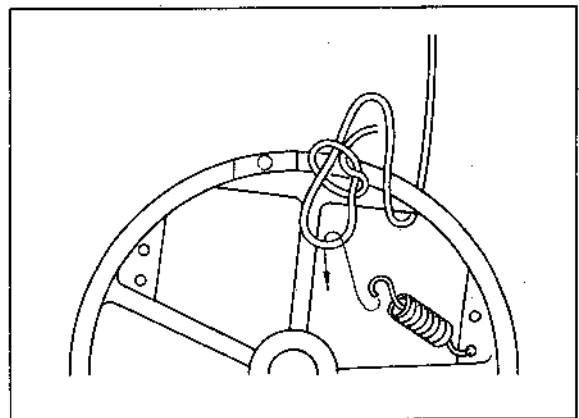

Fig. 2-7. Tying square knot in the tension spring
4. Hook the spring to one hole of the drum as shown in Fig. 2-7.